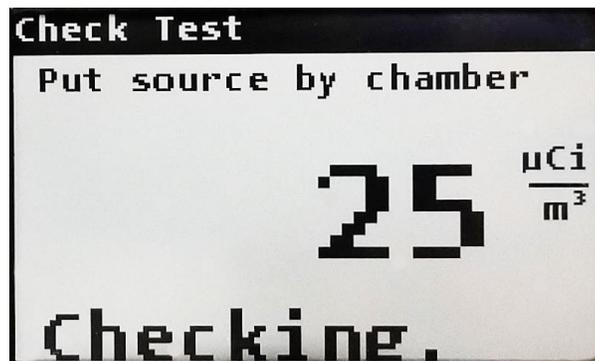

Figure 2-6. External Instrument Test Screen.
- b. EXTERNAL-If desired, an external gamma source can be used during the operational check. In this case, a reference reading with a gamma check source should be obtained at the time of initial calibration or as soon as possible for use in confirming proper instrument operation. The user should place the gamma check source over the dimple on the side of the instrument enclosure marking the center of the tritium chamber. If the instrument fails to read within 20% of a proper reading within 30 seconds, it should be sent to a calibration facility for recalibration. See Figure 2-6 for an example of an external test screen.